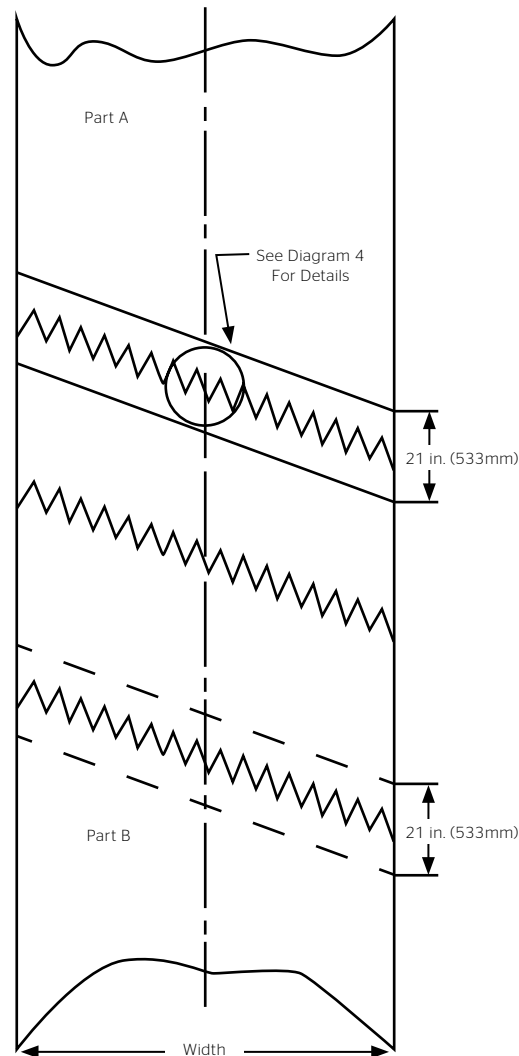

Fig. 6-2
11. Fig. 6-2 illustrates the fingers at the end of each step.